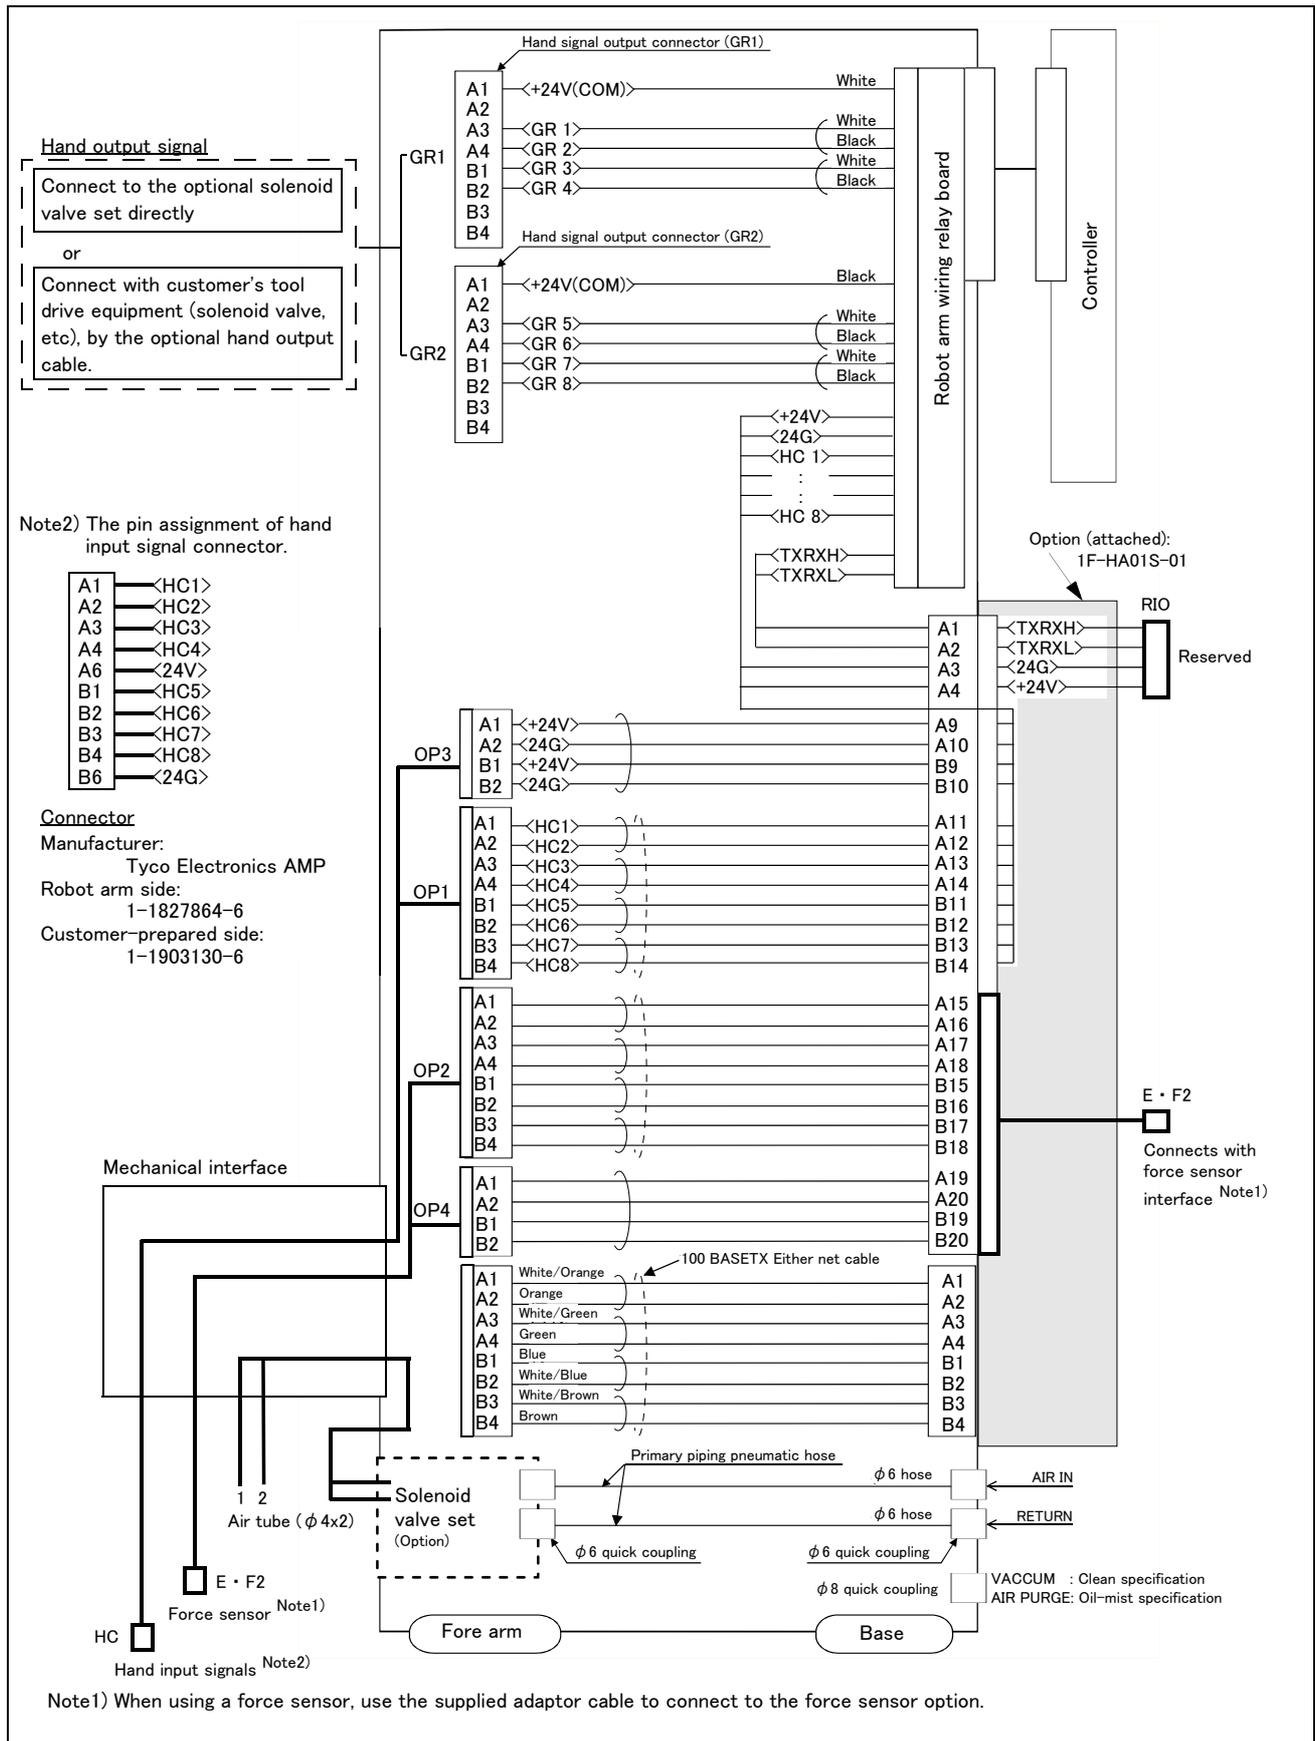

Fig.2-30 : Wiring and piping system diagram for hand and example the solenoid valve installation: SH04
- \*3) Refer to Fig. 2-30 for pin assignment of the hand input cable (HC).